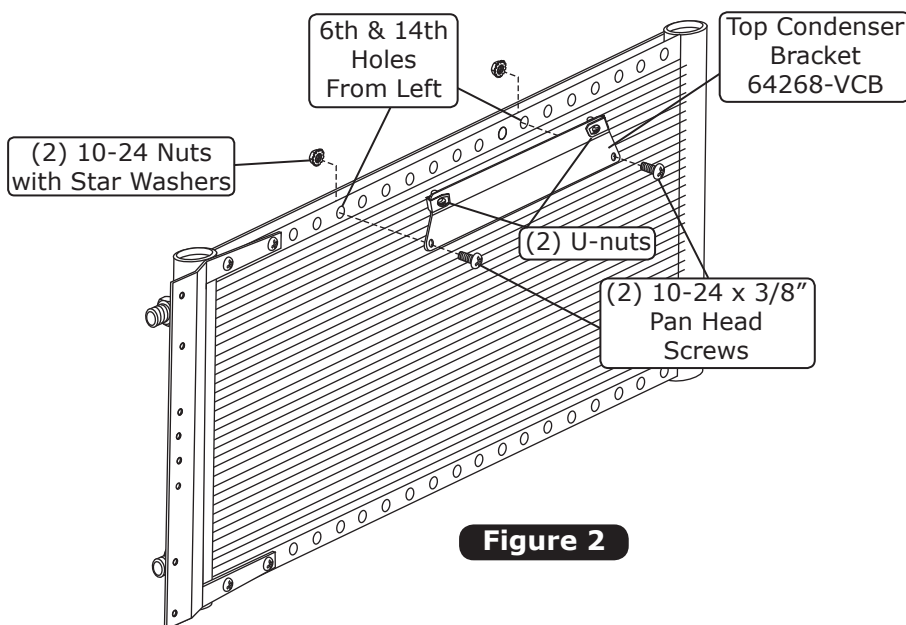

Figure 2
1. Install (2) U-nuts onto the top condenser mounting bracket as shown in Figure 2, below.
2. Install the top mounting bracket onto the condenser using (2) 10-24 x 3/8" pan head screws and (2) 10-24 nuts with star washers (See Figures 2 & 2a, below). **NOTE: The bracket mounts to the outside of the flange through the 6th and 14th holes from the left side of the condenser.**